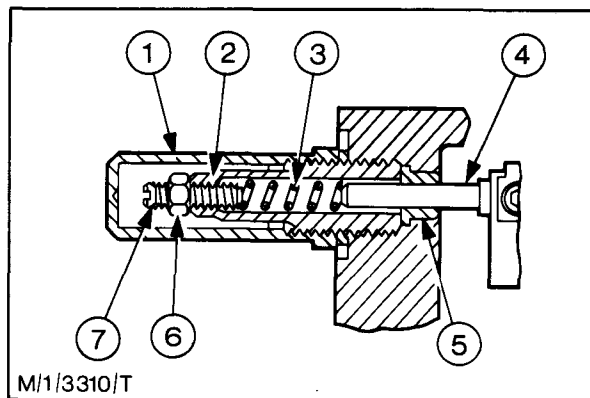

Fig. 49 - Damper Assembly Section View (Dover)
49. Pumps with control rod damper - Unscrew the capnut and sealing washer. Remove the damper adjusting screw and locknut and unscrew the damper spring and sleeve assembly (where fitted) and remove it (Fig. 49).